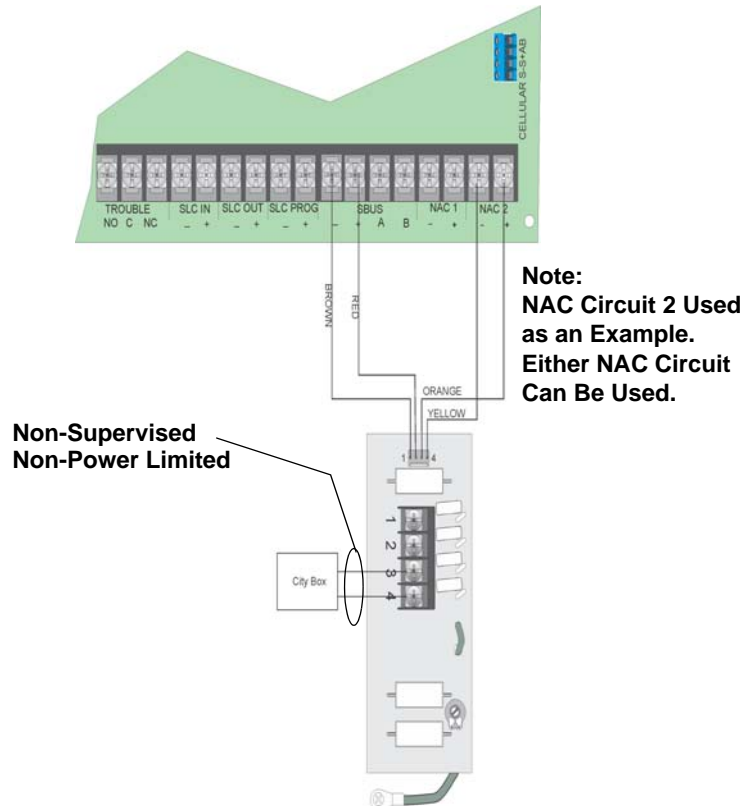

Figure 4.50 City Box Connection
2. Wire the 5220 to the control panel as shown in Figure 4.50. This drawing also shows how to connect the city box coil to terminals 3 and 4 on the 5220. Do not install an EOL resistor in the terminals of the NAC circuit used for this application.